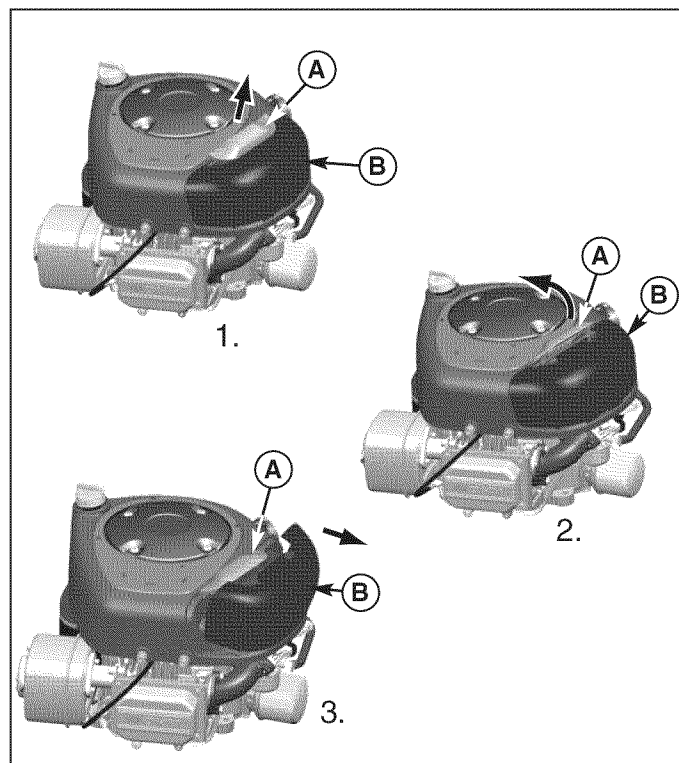
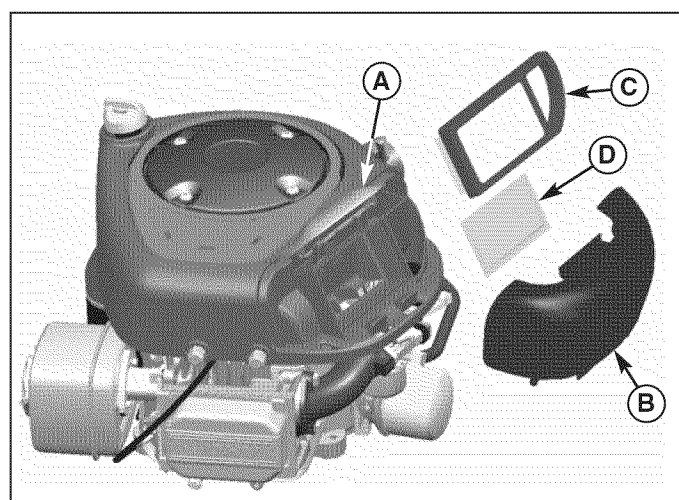

Figure 29. Air Filter Assembly - Briggs & Stratton Single Cylinder Models
Figure 30. Air Filter Service - Briggs & Stratton Single Cylinder Models
1. Lift up on the air filter latch (A, Figure 29).
2. Rotate the air filter latch (A) to the inside.
3. Pull air filter cover (B) out and off.
4. Lift air cleaner (C, Figure 30) and pre cleaner (D) if equipped, from blower housing)
5. Install the pre-cleaner (D) with the mesh side up. Install the filter (C) as shown.
6. Install the cover (B) making sure the tabs are inserted into their slots. Secure with the latch (A).